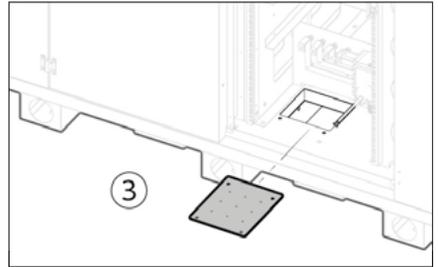

Fig. 8.5 - Cable passage plate removal
4. Unscrew the 2x M6 screws and remove the cable entry plate at the base of the cabinet (Fig. 8.5).
15. Reposition the cable passage plate at the base of the cabinet and secure it with the 2x M6 screws (Fig. 8.5).